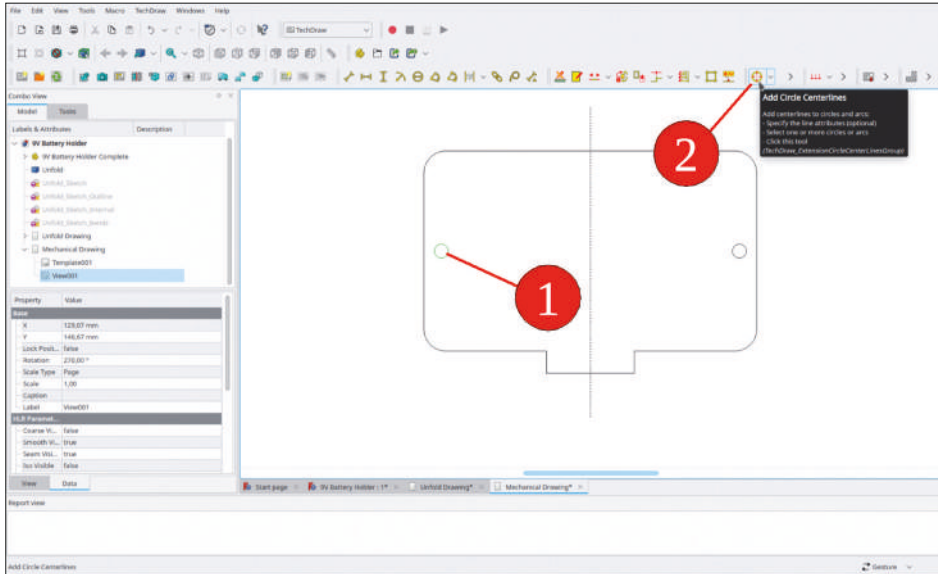

Figure 5-36
6. First, the distance of a mounting hole to the edge of the part could be specified. To pick the circle position, center lines for the hole are needed. Mark the hole contour on the drawing and click the 'Add Circle Center lines' tool button (Figure 5-36).